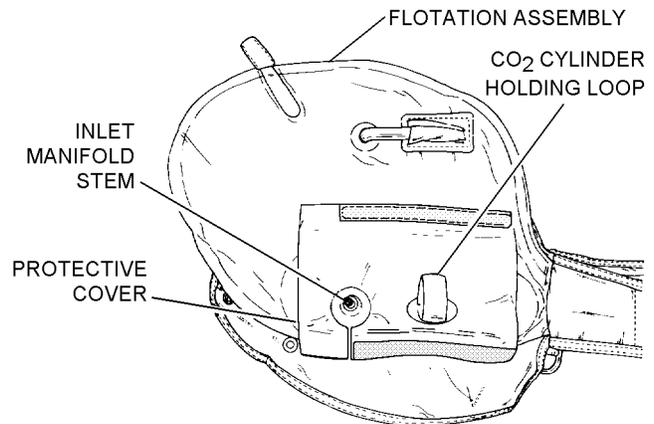

Figure 17-4. Installation of Inflation Valve Protective Cover
2. Place inflation valve protective cover upon the life preserver. Ensure that inlet manifold stem hole and CO₂ cylinder holding loop hole are aligned according to figure 17-4.